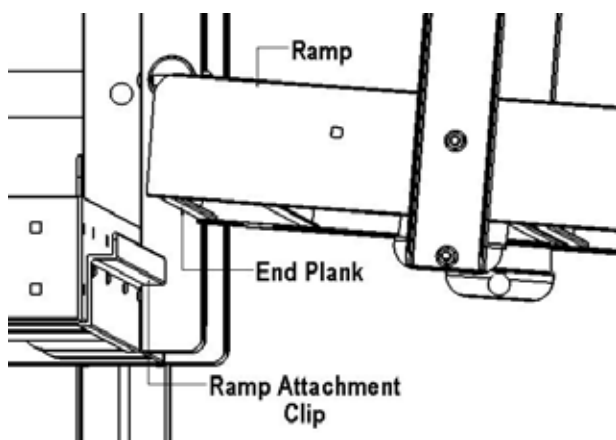

Fig.4.11
**4.4 Ramp to Landing Attachment:** Before attaching ramp to platform, make sure **Section 3.8** on page 17 has been completed. Place the end plank of ramp over the ramp attachment clip (**Fig.4.11**). Going in an upward direction, any ramp to platform transition will create a gap. Place Upper "T" between the platform and ramp to cover this gap. Attach upper "T" in all four corners using self-tapping screws and cordless drill.